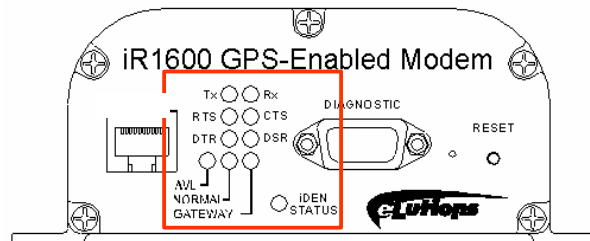

Figure 18 – LEDs on Front Panel of GPS-Enabled Modem
Your iR1600 modem is equipped with six (6) single color LED indicators (see Figure 18 on page 52) that identify the modem's various communication statuses and one (1) LED to indicate the status of the iDEN® network. Additionally, the iR1600 GPS-Enabled modem has three (3) LEDs and the iR1600 Rugged modem has two (2) LEDs that indicate their mode of operation.